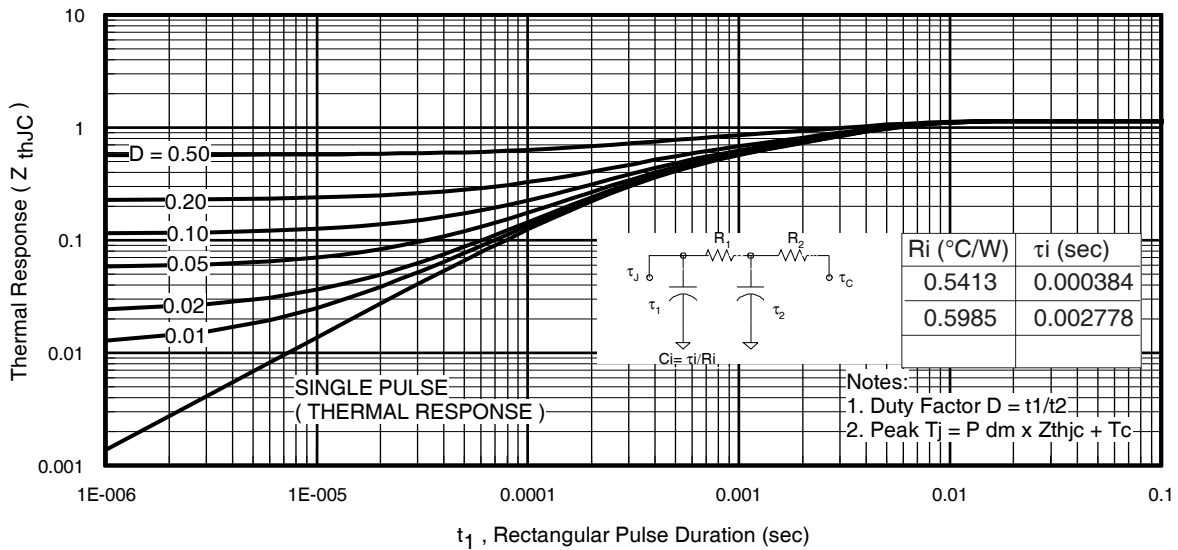

Fig 11. Maximum Effective Transient Thermal Impedance, Junction-to-Case
- ① Repetitive rating; pulse width limited by max. junction temperature. (See fig. 11).
- ② Limited by T_{Jmax} ; starting $T_J = 25^\circ\text{C}$, $L = 0.09\text{mH}$
$Z_{thJC}(D, t_{av})$ = Transient thermal resistance, see figure 11)